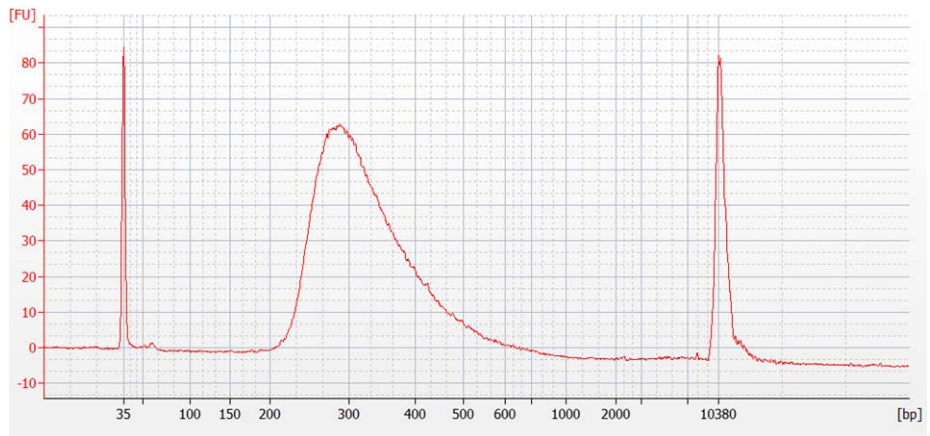

Figure 10 Analysis of indexed DNA sample using a High Sensitivity DNA Bioanalyzer assay.
- 7 Verify the results. Check that the electropherogram shows a distribution with a fragment size peak between approximately 250 to 300 bp. A sample electropherogram is shown in Figure 10.